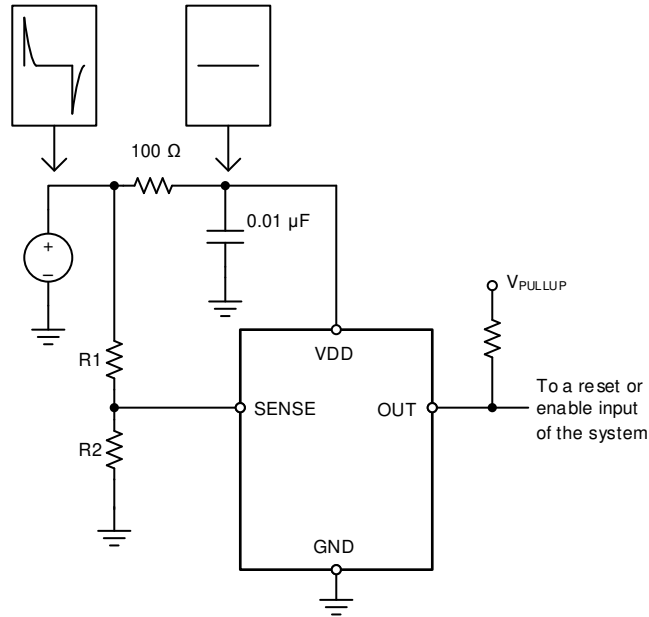

图 7-5. Using an RC Filter to Remove High-Frequency Disturbances on VDD
The TPS3711 has a 40-V absolute maximum rating on the VDD pin, with a recommended maximum operating condition of 36 V. If the voltage supply that provides power to VDD is susceptible to any large voltage transient that may exceed 40 V, or if the supply exhibits high voltage slew rates greater than 1 V/ μ s, then place an RC filter between the supply and VDD to filter any high-frequency transient surges on the VDD pin. In these cases, a 100- Ω resistor and 0.01- μ F capacitor are required, as shown in 図 7-5.
- Avoid using long traces for the VDD supply node. The VDD capacitor (C_{VDD}), along with parasitic inductance from the supply to the capacitor, might form an LC tank and create ringing with peak voltages above the maximum VDD voltage. If long traces are unavoidable, see 图 7-5 for an example of filtering VDD.